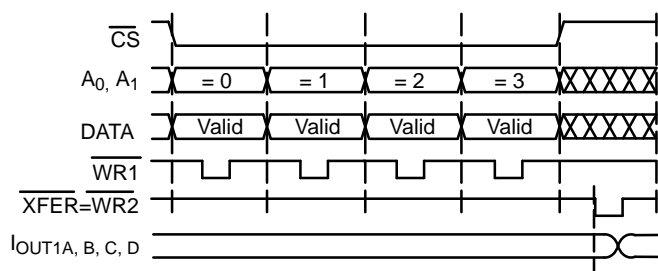

Figure 5. Simultaneous Updates of DACs
- 1) **Simultaneous updates of any number of DACs.** The system uses from one (two) to four (eight) cycles to write from a 12 (8) bit bus into B1/B2 latches. One transfer cycle updates the output of all DACs (Figure 5.).